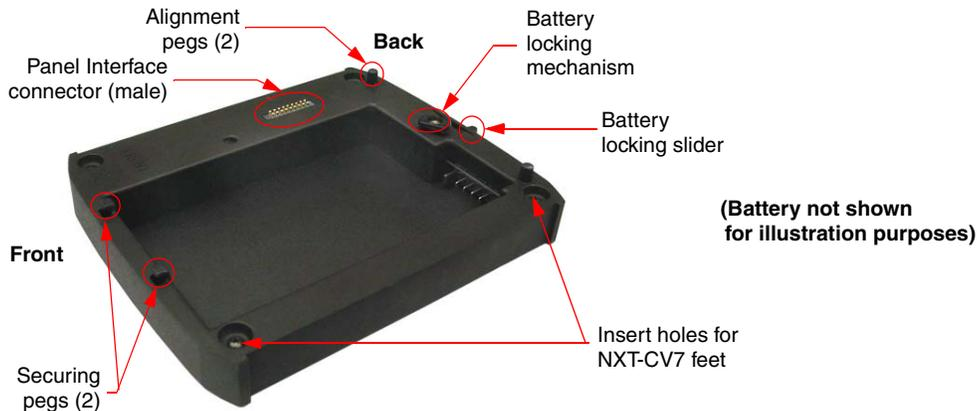

FIG. 26 NXA-BASE/1 showing Panel Interface and connector locations
- Turn the battery locking slider (FIG. 26) to one side until the locking mechanism is horizontal to the base (going left to right) and the rear battery latch is pointing directly outward (away from the LCD).
- Insert the single battery into the battery compartment shown in FIG. 26 on page 24.